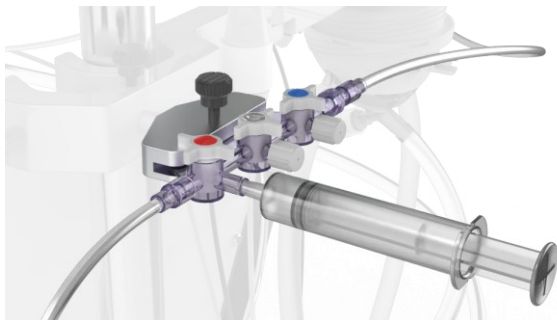

Figure 22 De-air the sample line by aspirating with a syringe. Ensure that the red valve is in the orientation indicated.
- Place the syringe on the red port of the sample valve to de-air the sample line. Open the red valve on the sample port (Figure 22).